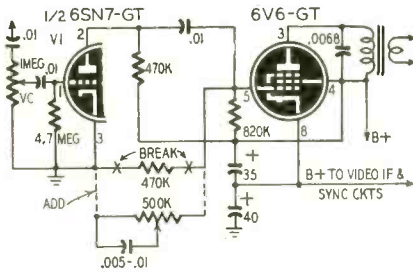

Fig. 1—A top-cutting tone control.
A. Fig. 1 shows a simple high-cut type of tone control. The 470,000-ohm grid resistor in the 6V6-GT circuit is replaced with a 500,000-ohm tone-control potentiometer with a .005-.01- $\mu$ f